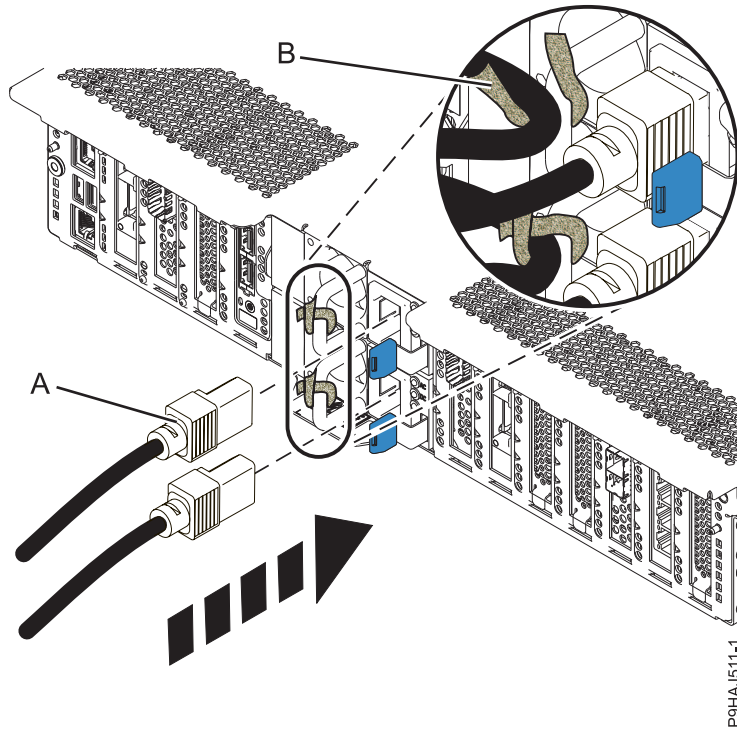

Figure 30. Connecting the power cords
2. Reconnect the power cords (A) to the system unit. Fasten the power cords to the system using the hook-and-loop fasteners (B) as shown in Figure 30 on page 41.